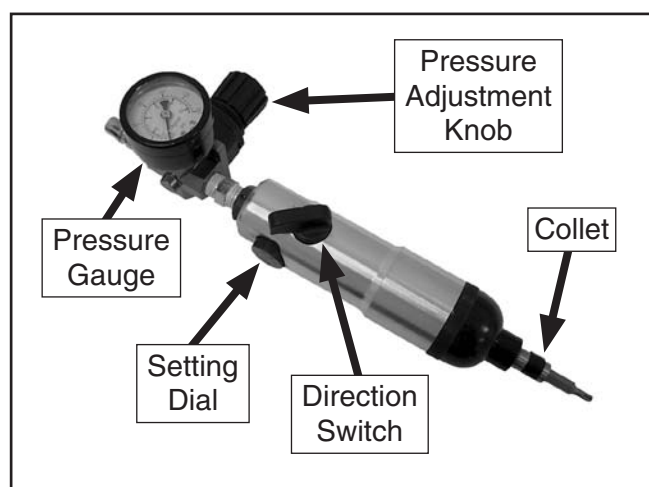

Figure 59. Components of the air pressure torque wrench.
2. Make sure the pressure gauge is fully threaded onto the wrench, as shown in **Figure 59**.